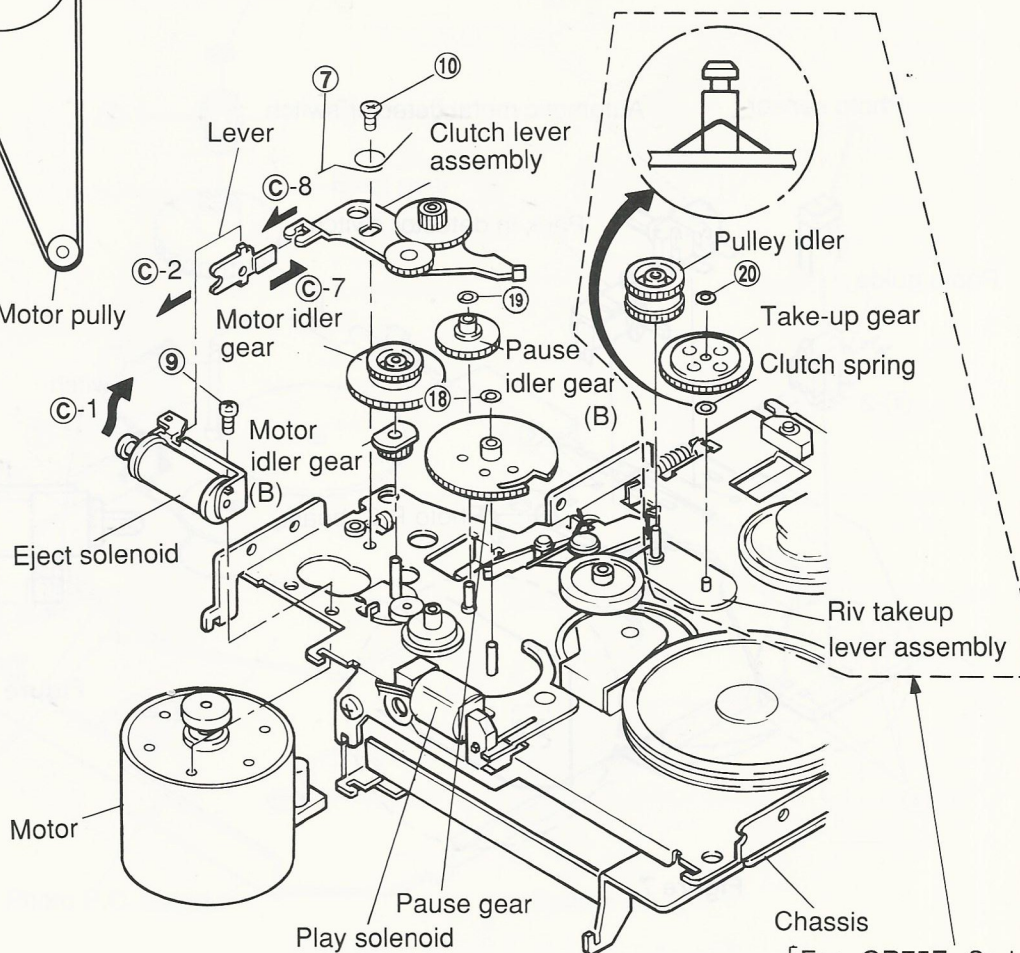
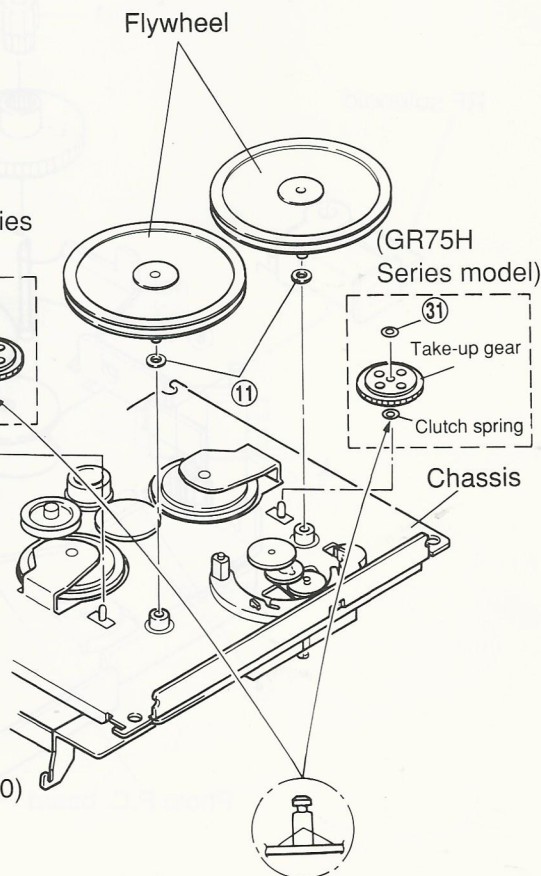

Figure 10
Figure 12
- (1) After removing the belt, remove spring ⑦ as shown in Figure 10.
- (3) Remove two screws ⑨ and ⑩, and remove the motor, taking care not to damage the motor idler gear. (Refer to Figure 10.)
- (4) Mount the new motor following the removal steps in the reverse order.
- (1) After removing the belt, pull out the two flywheels. Take care not to loose the polyslider washer (11) located between the flywheel and the chassis. (Refer to Figure 12.)
- (2) Fix the polyslider washer to the new flywheel and mount the flywheel to the chassis.
- (2) Remove screw (9) and remove the solenoid as shown in Figure 10.
- (3) Align position (C)-1 of the new solenoid with position (C)-2 of the lever and fasten the screw as shown in Figure 10.
- (4) Lead the wire through the tube and solder it.
- (1) After removing the motor, remove the motor idler gear and the motor idler gear (B) and remove the clutch lever assembly as shown in Figure 10.
- (3) Mount the new gears and clutch lever following the removal steps in the reverse order.
**Note:** When mounting the gears to the lever, apply grease (PG-671) to the position ㉔-6 as shown in Figure 15. Align the position ㉔-7 with the position ㉔-8 and mount the clutch lever as shown in Figures 10 and 15.
- (1) Remove M1.2 lock washer ⑱ and remove the pause gear pulling it up from the stud of the chassis as shown in Figure 10.
- (2) Mount the new gear following the removal steps in the reverse order.
- (f-7) Replacement of the pause idler gear (B)
- (1) After removing the motor and the motor idler gear, remove M1.2 lock washer ⑲ and remove the gear by pulling it up from the stud of the chassis as shown in Figure 10.
- (2) Mount the new gear by following the removal steps in the reverse order.
- (1) After removing the belt and the pulley idler gear, remove M1.2 lock washer ⑳ by pulling it up from the stud of the riv take-up lever assembly as shown in Figure 10. [For GR75E Series, GR75L Series, GR-Y Series models] After removing the Flywheel, remove M1.2 lock washer ㉑ and remove the gear by pulling it up from the stud of the chassis as shown in figure 12. [For GR75H Series model]
- (2) Remount the take-up gear following the removal steps in the reverse order.